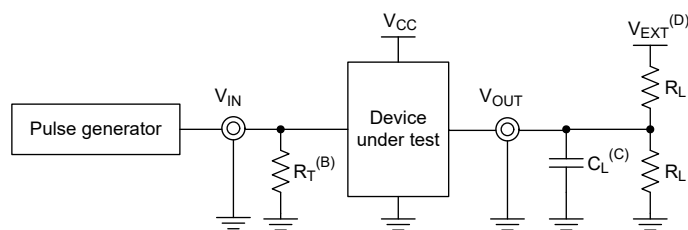

図 6-1. Load Circuit
2. Waveform 1 in Figure 6-3 is for an output with internal such that the output is high, except when OE is high (see Figure 6-1). Waveform 2 in Figure 6-3 is for an output with conditions such that the output is low, except when OE is high.